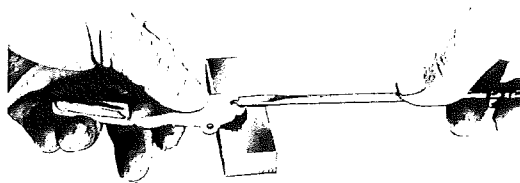

FIGURE 15
5. Secondary Valve & Lever Assembly (Figure 15)